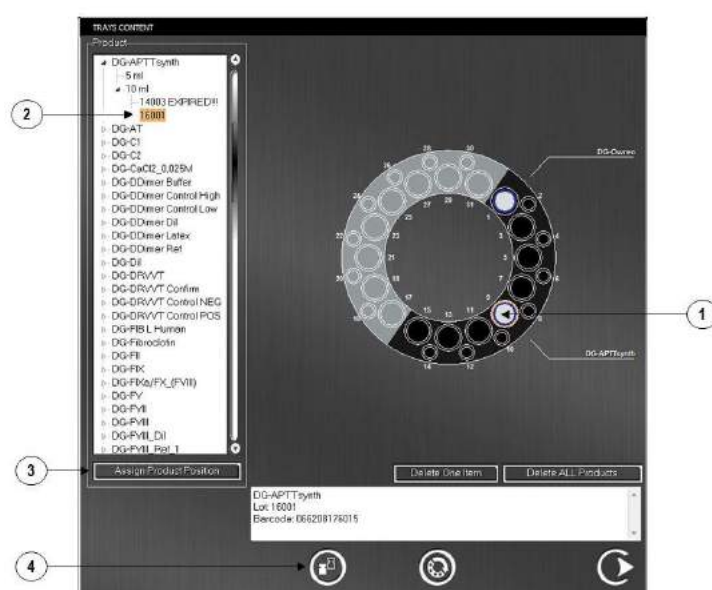

Figure 15.1. Products Loading Window
- Introduce the Product **Lot** manually. To do so, first press on the position in which the product vial is going to be placed (represented by a "?" symbol if a pre-customised layout has been chosen (Figure 15.1, no. 1). And then, select the **Product**, the commercial **Presentation** and the specific **Lot** (Figure 15.1, no. 2) with which you are going to work.
- Press **Assign Product Position** (Figure 15.1, no. 3).